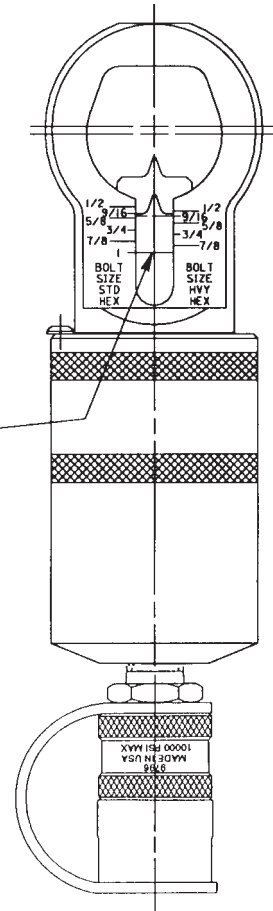

Figure 1
1. Turn the Nut Splitter frame to align the laser mark with the correct hex size of the nut you are removing. See Figure 1.